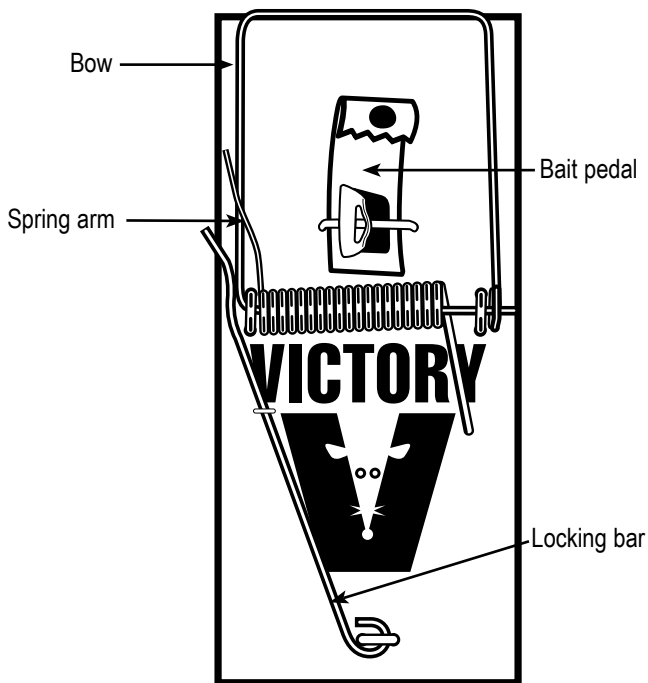
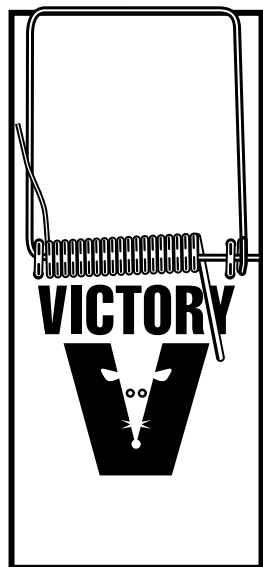
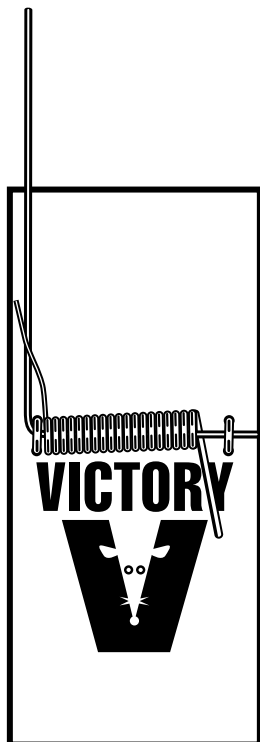

Figure 13a –
Figure 13b –
Figure 13d –
1. Locate the mousetrap and note its parts (Figure 13a). With needle-nose pliers, remove the locking bar and bait pedal (Figure 13b). With wire cutters, snip off the right side of the bow (Figure 13c). Set aside the end you cut off. Using needle-nose pliers, straighten the bow (Figure 13d).